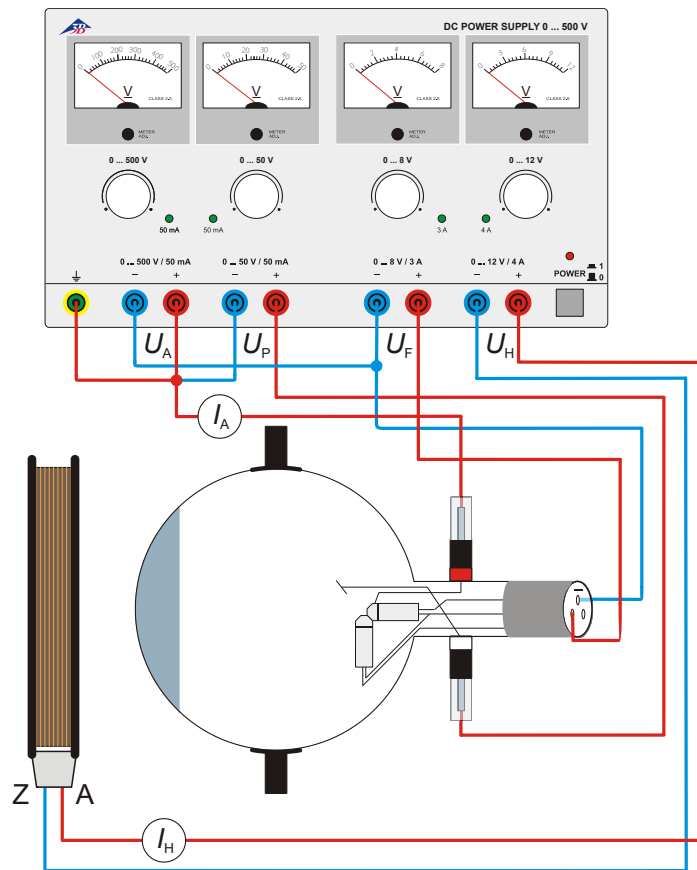

Fig. 6 The effect of an axial magnetic field
- Connect the tube as in Fig. 6.